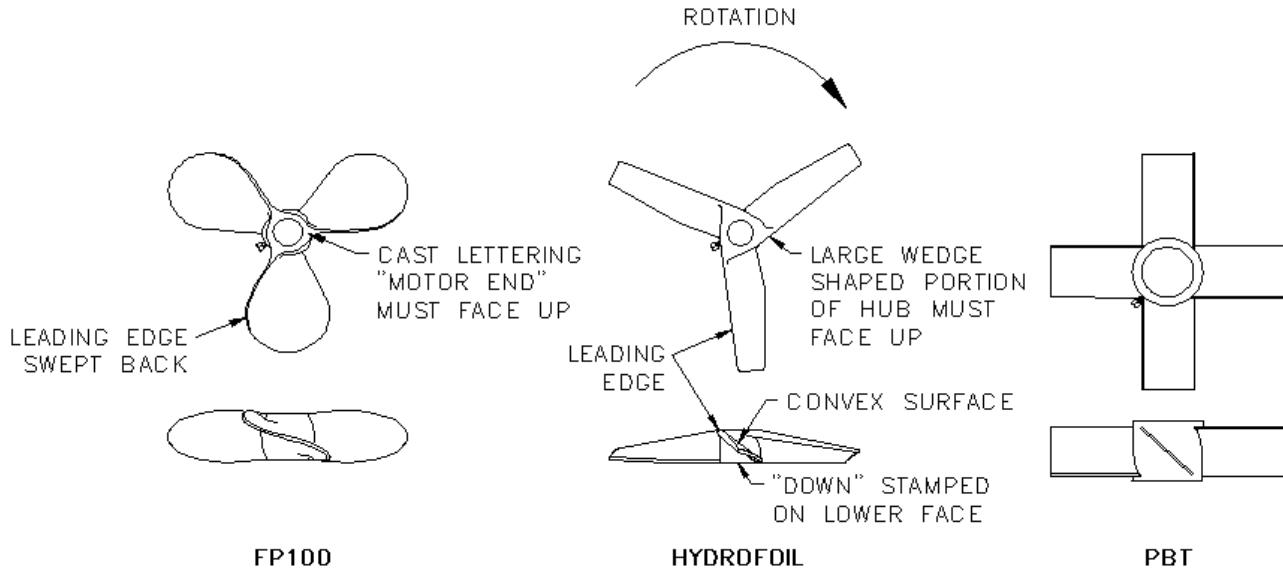

FIGURE 8
- a. FP100 impeller - "Motor End" is cast on the upper side of the impeller. Figure 8 shows how to determine the upper face of the impeller in the event the printing becomes illegible. Note: Lettering is removed on polished impellers. Tighten impeller set screws securely. For unusually severe conditions, the shaft should be spotted for the set screws.
- b. HYDROFOIL impeller - The larger wedge shaped portion of the hub body must face up towards the mixer. The bottom of the hub is stamped "Down". Note: Stamping is not present on polished impellers. Refer to Figure 8 for general orientation reference. Tighten impeller set screws securely. For unusually severe conditions, the shaft should be spotted for the set screws.